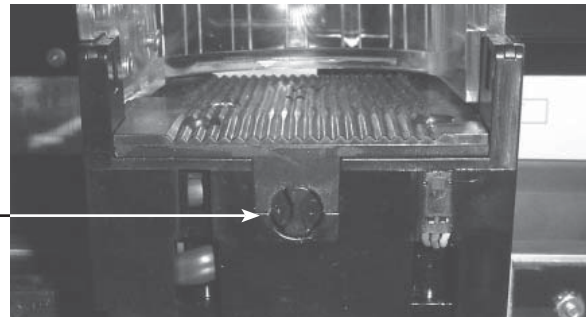

FIGURE 5.5.
1. Remove the top of the cup, and check the harness connection at pinout P3 on the cup logic board. (Refer to Figure 5.5.) Make sure there are no loose wires and the connection is tight.